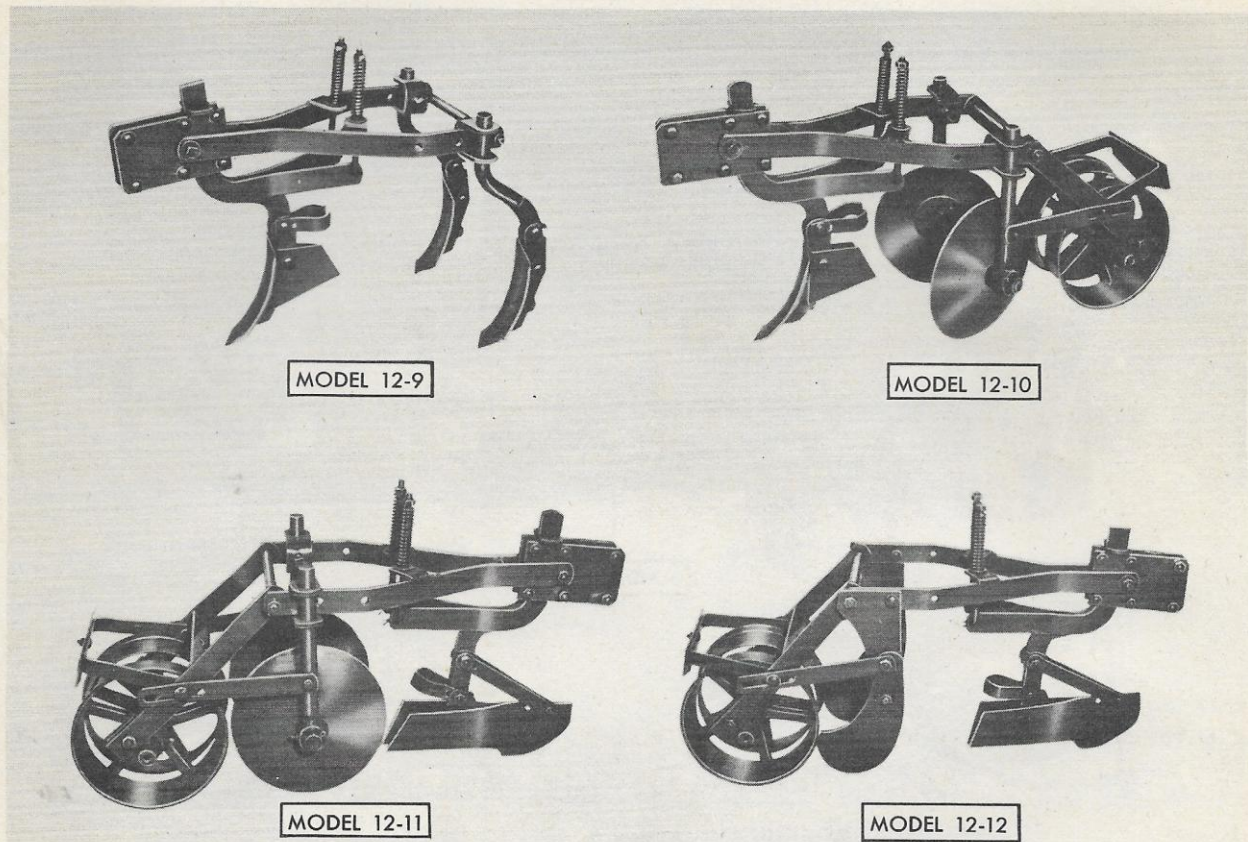

Figure 3
This planter attachment is available in four models of covering frames (see Figure 3) designed for use in different types of soil. Openers and coverers provided with the covering frames are interchangeable so that the desired combination can be obtained to meet a wide variety of planting conditions.
NOTE: See Figure 3 for covering assemblies for each of the four models.
7. Assemble the covering frames concerned as shown in Figure 3.